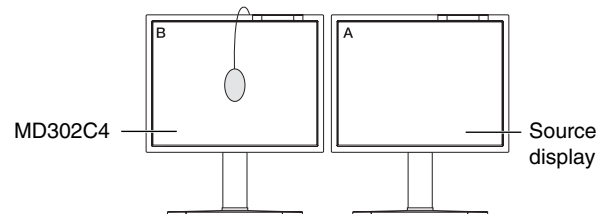

Figure C.2
7. When you want to confirm the white point of Display B, remove the USB color sensor from source Display A and place in the center of Display B (**Figure C.2**). To skip the white point confirmation, Display B, press "SELECT" to step 9 for FINE TUNING.